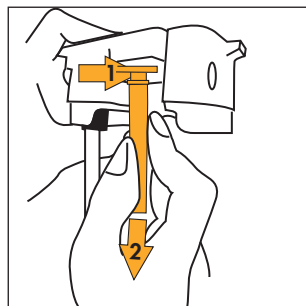

Fig.32
- Remove the milk spout (fig. 32) and intake tube.